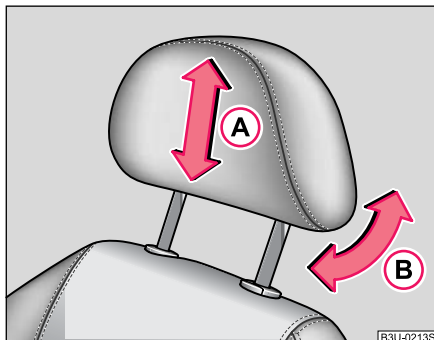

Fig. 44 Adjusting head restraint
- Grasp the side of the head restraint with both hands and push it up or down in direction of arrow **(A)** ⇒ **fig. 44**. Best protection is achieved if the top edge of the head restraint is at least at eye level or higher.
- The head restraint can be matched to the head of the occupant by adjusting the angle in the direction of the arrow **(B)** ⇒ **fig. 44**. Adjusting the angle of the head restraint provides enhanced comfort for the user.